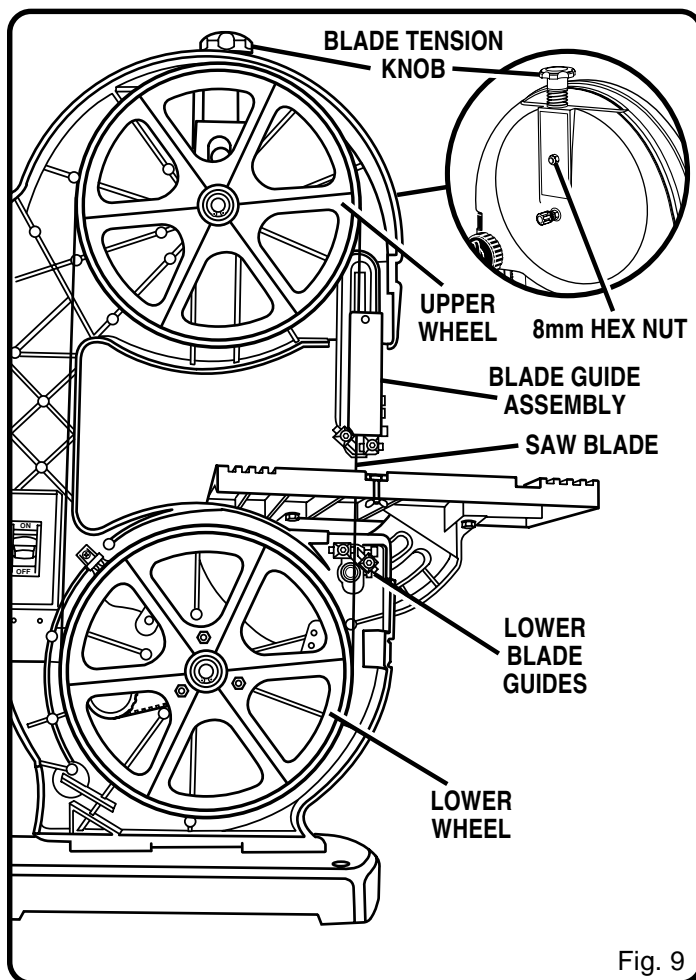

Fig. 9
- Release blade tension by loosening the 8 mm hex nut then turning the blade tension knob counterclockwise. See Figure 9.